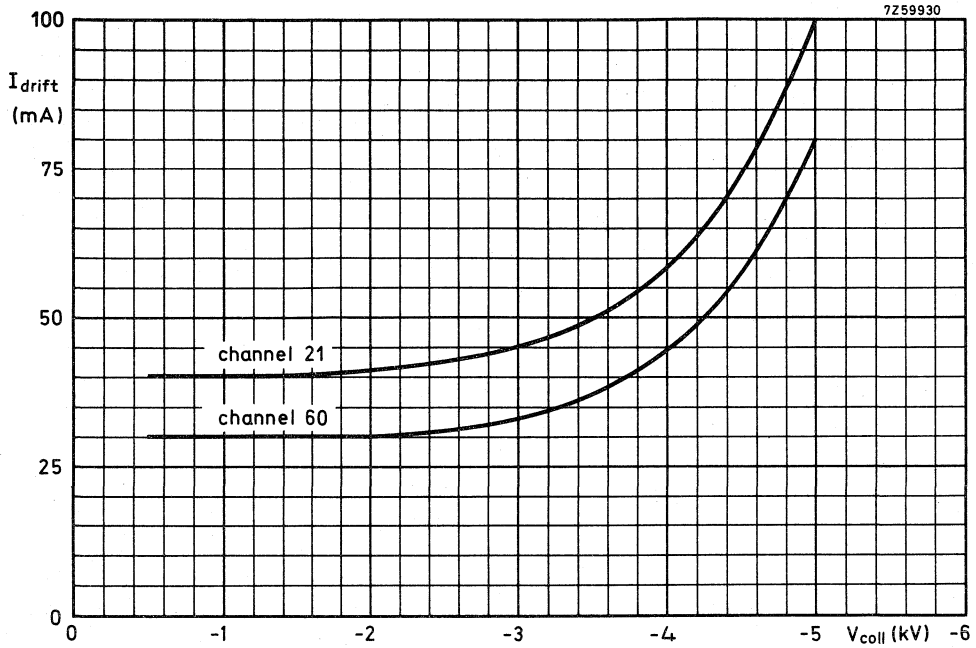

Fig. 11.
** For limiting values of various operating conditions see next page and Fig. 11.
6. At black level, to be focused for minimum drift tube current. If necessary to obtain the required signal-transfer quality, a deviation of maximum 10% from this minimum current is permitted. The limiting value, see Fig. 11, must however, not be exceeded.